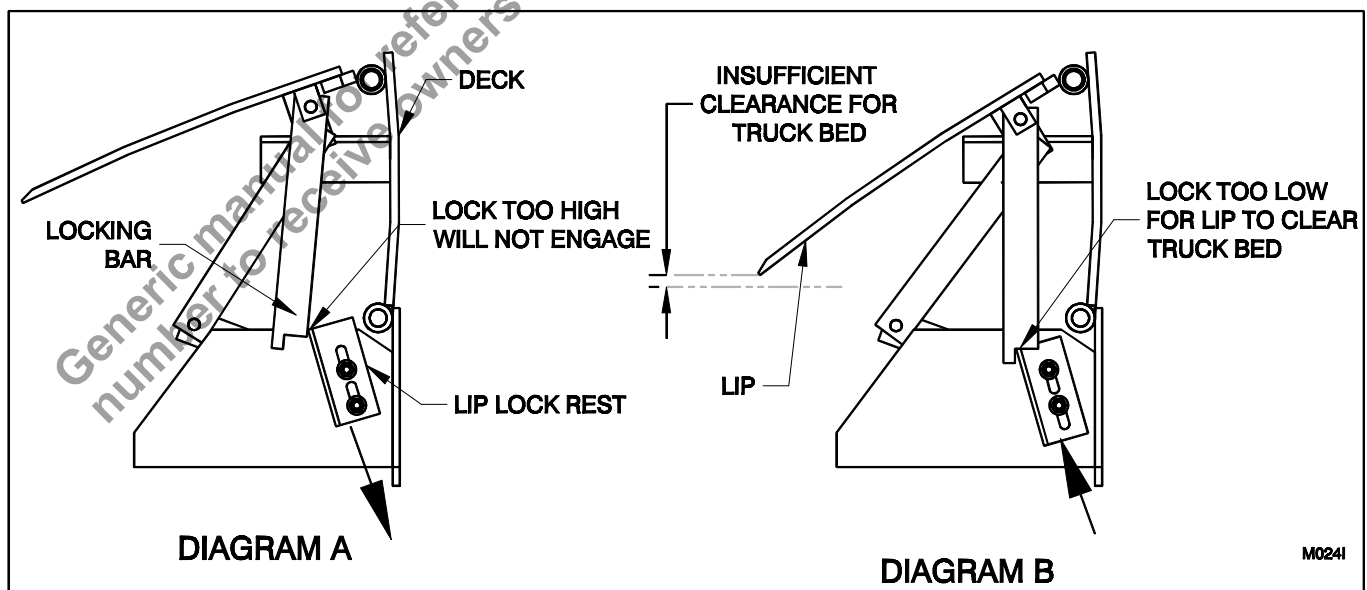

Figure 16: Lip Lock Adjustment
-Lip lock rest is too high and will not allow the locking bar to fully seat in the locking position. Lower the lip lock rest to just allow the locking bar to fully seat when the deck is in the full vertical position. (See Diagram A, Figure 16: Lip Lock Adjustment on page 20)
-Lip lock rest is too low and will not allow the lip to fully extend. Raise the lip lock rest to just allow the locking bar to fully seat when the deck is in the full vertical position. (See Diagram B, Figure 16: Lip Lock Adjustment on page 20)